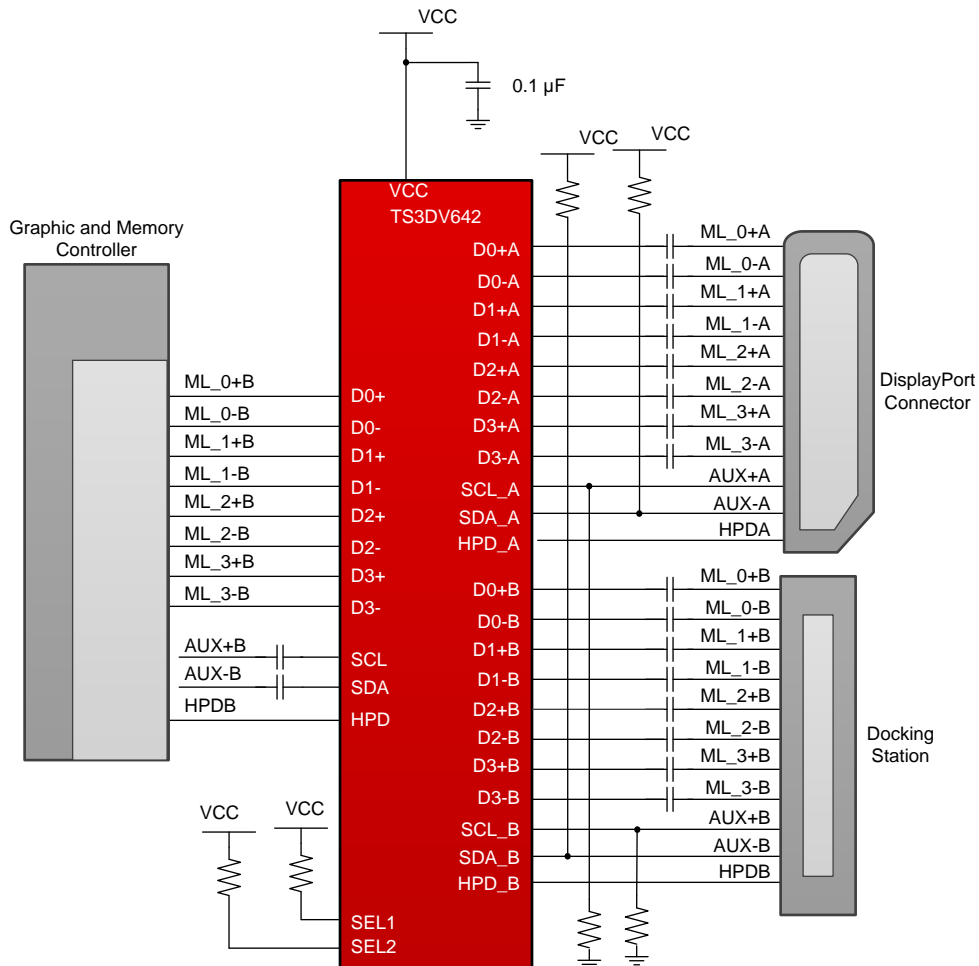

Figure 24. Docking Application Schematic
TS3DV642 can be used for two typical DisplayPort applications. Figure 21 describes a DisplayPort (DP) application where TS3DV642 is used to switch between two different graphic & memory controllers on a single DP connector. Figure 24 shows a docking application where TS3DV642 is used to switch signals from a single graphic and memory controller to a display port and docking station connector. Note that the TS3DV642 is not designed for passing signals with negative swings; the high-speed signals need to be properly DC biased (usually ~1 V from the graphic controller side) before being passed to the TS3DV642.